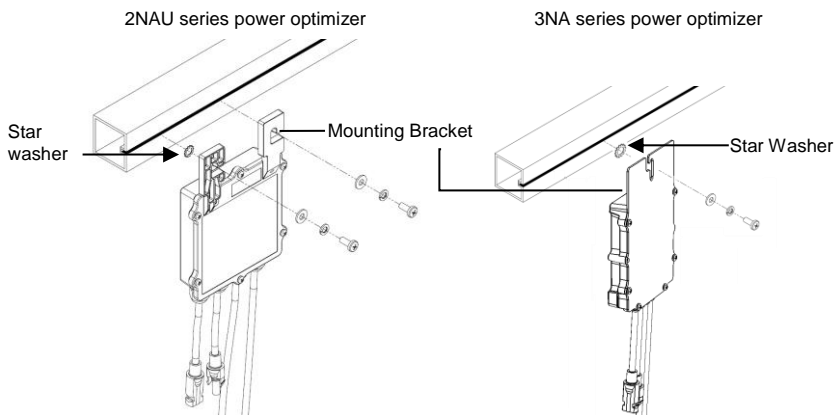

Figure 4: Power optimizer installation and grounding using the star washer
- 1 Determine the power optimizer mounting location and use the power optimizer mounting brackets to attach the power optimizer to the support structure, (see Figure 4). For optimizers supplied with module frame-specific brackets, attach the power optimizer to the module frame following the instructions included with the optimizers.